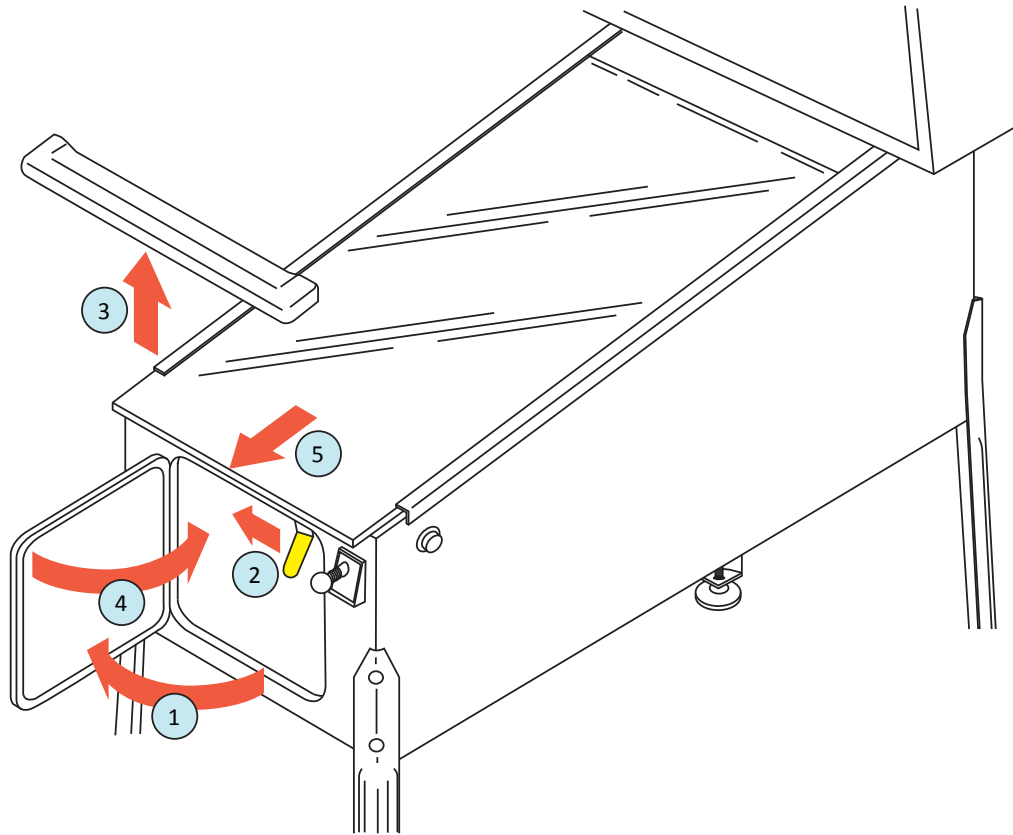

Figure 10. Removing the playfield glass.
11) You will find the coin door keys attached to the ball shooter, on the front of the game. Cut them loose with a pair of wire cutters. Remove the playfield glass: 1) open the coin door, 2) slide the yellow lockdown bar lever to the left, 3) lift the lockdown bar straight up and out, 4) **CLOSE AND LOCK THE COIN DOOR** (to prevent scratching of playfield glass), then 5) slide the playfield glass off of the front of the cabinet (see figure 10). Carefully set the glass aside.